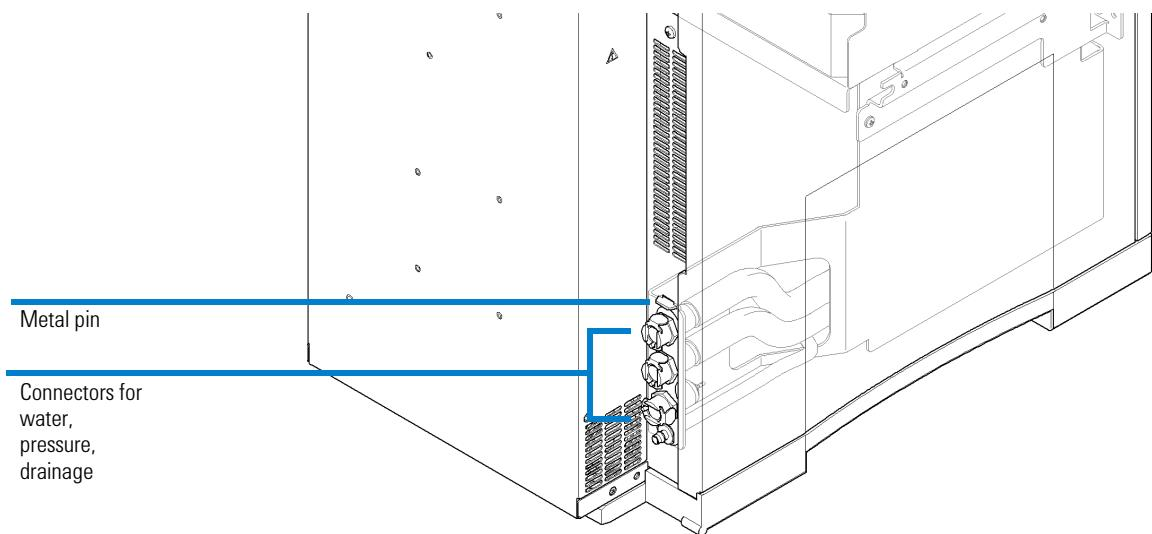
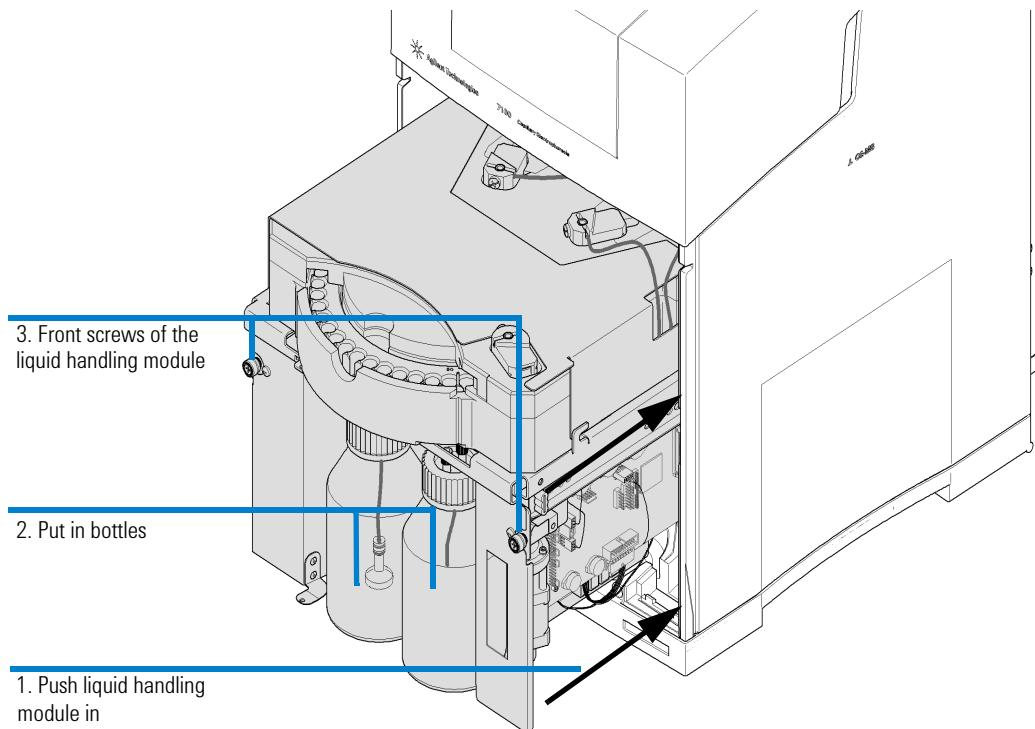

Figure 73 Rear side of liquid handling module
Figure 74 Liquid handling module
- 9 Push the liquid handling module back into the instrument as shown in Figure 74 on page 233. To release it from the front position, slightly more force is needed. Carefully move the liquid handling module completely into a position that allows fixation. Please note the metal nose from the liquid handling module which has to fit in a hole of the back metal sheet as shown in Figure 73 on page 232.